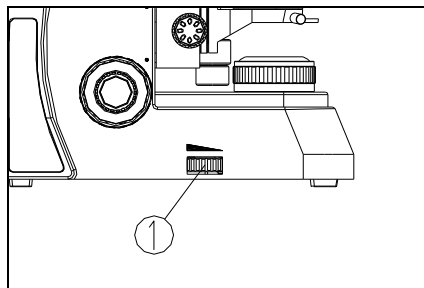

Fig. 9
2. Adjust the light adjustment knob (1) until the illumination is comfortable for observation. Rotate the light adjustment knob clockwise to raise the voltage and brightness. Rotate the light adjustment knob counterclockwise to lower the voltage and brightness (see Fig. 9).